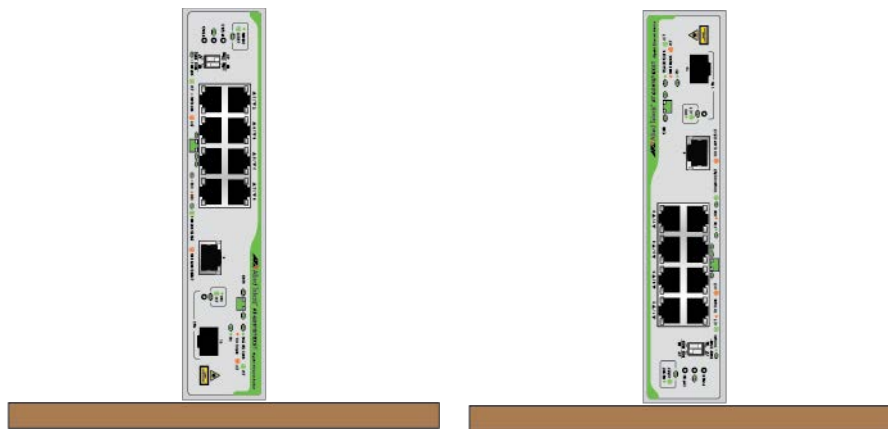

Figure 19. Vertical Installation Options for the GS910/10XST Switch
- ❑ The GS910/10XST switch can be installed upright on the flat surface as shown in Figure 19. You must use the STND-03 Stand Kit to install the switch.